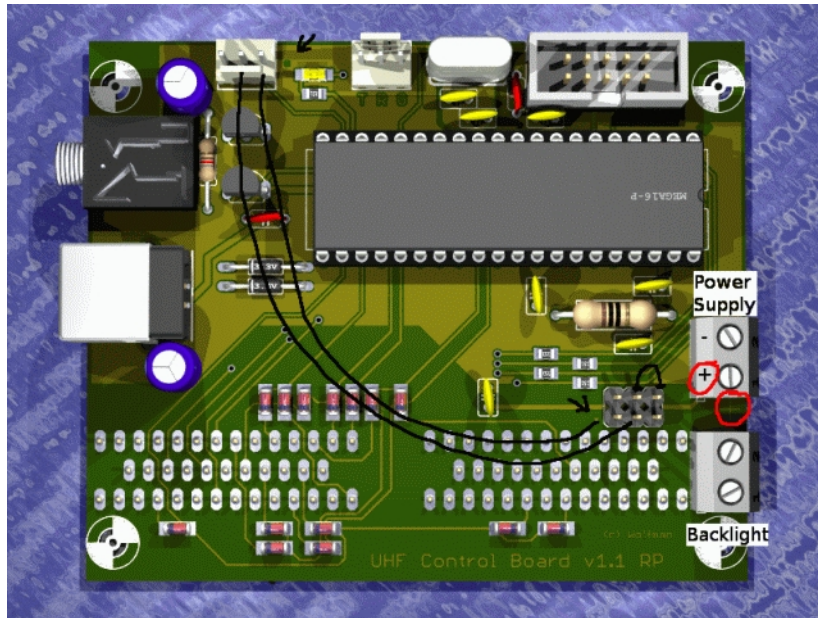

Figure 3.3: Volume Potentiometer Connection
The UHF Control Board can use the Volume knob of the UHF ARC-164 Panel to adjust volume. Use the 2pol wire cable to connect the Volume knob pinheader to the audio volume pinheader of the UHF Control Board. (see figure 3.3)
is connected to the UHF Control Board (The Power Plug labelled "Backlight" in figure 3.3).
7. UHF Control Board power supply, USB not connected The power plug "Power Supply" for the UHF Control Board (see figure 3.3) should be left unconnected. The board receives its power through the UHF Indication Board.